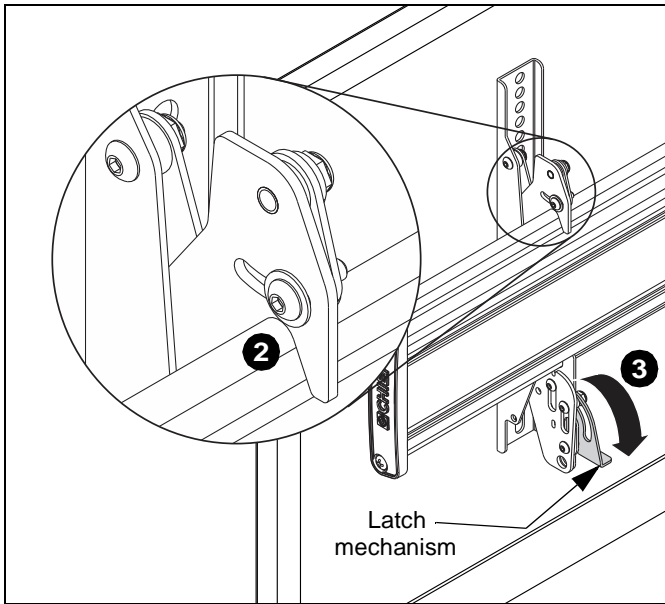

Figure 3
2. While supporting both sides of display, lower display onto mounting rail, hooking top of interface brackets onto top of mounting rail. (See Figure 3)
3. Lower the latch mechanism on both interface brackets to lock bracket in place. (See Figure 3)